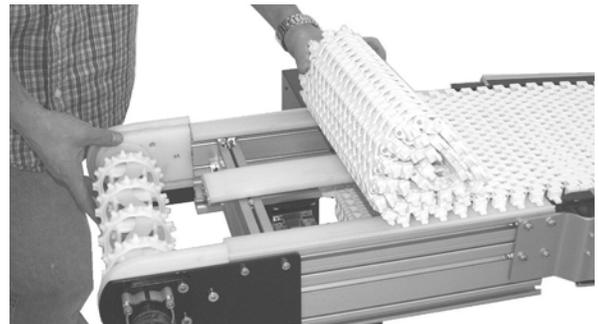

Figure 11
1. Position the belt on the conveyor frame (Figure 11).